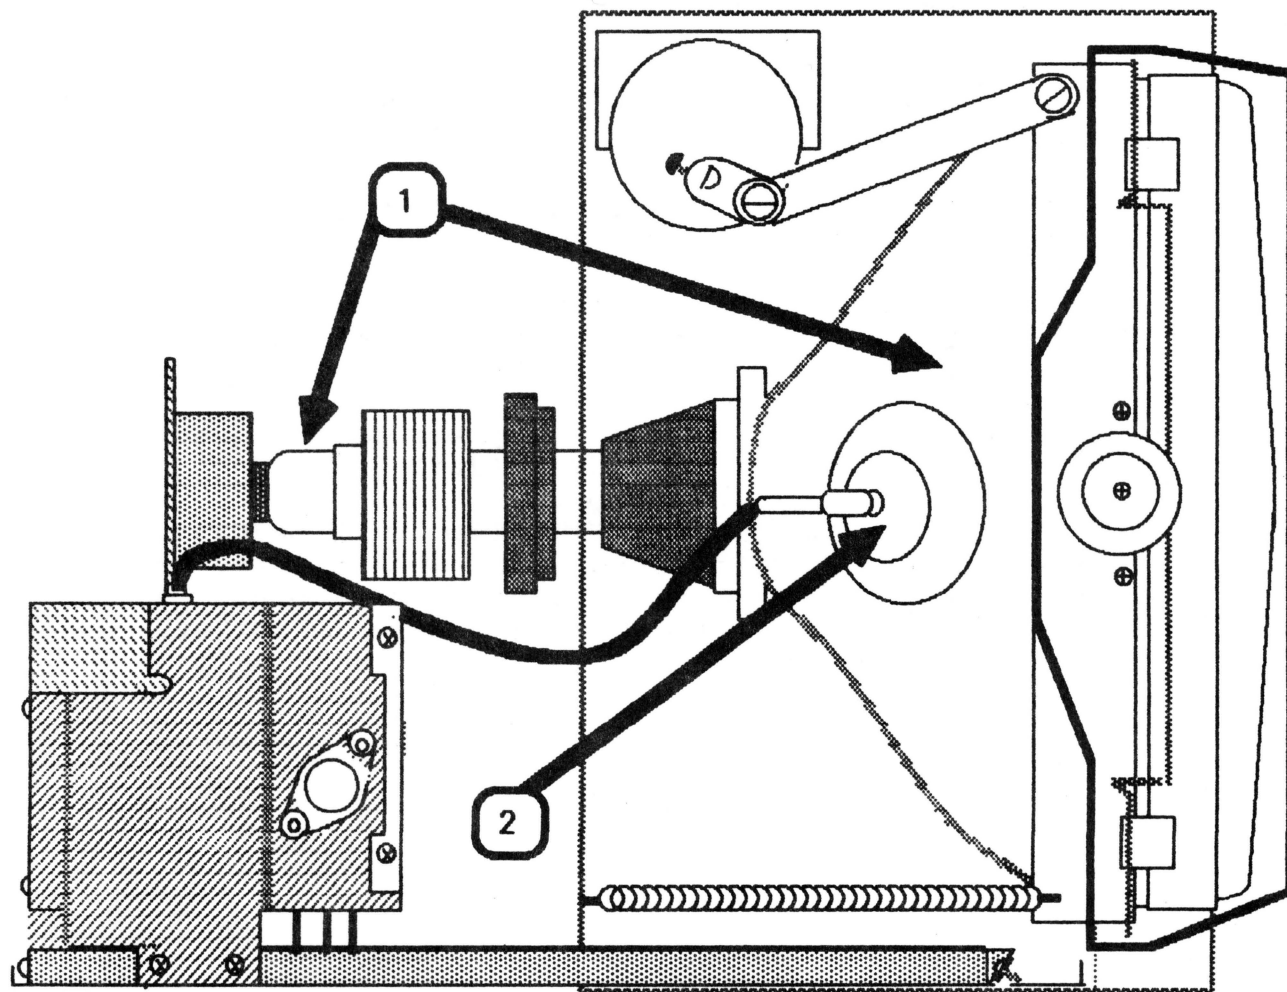

FIGURE 3
2. **ALWAYS DISCHARGE THE CRT BEFORE REMOVING OR REPLACING ANY INTERNAL PARTS.** The CRT, or Cathode-Ray Tube, (Figure 3, #1) is an extremely dangerous piece of equipment. It runs at 24,000 volts DC and contains a high vacuum. Before touching any internal components you must discharge the CRT. (See **Discharging the CRT.**)
6. **NEVER TOUCH THE ANODE.** Normally the anode has a connector (Figure 3, #2) plugged into it, but when a CRT is replaced, this connector is removed, exposing the anode. The anode can maintain a charge of several thousand volts (even after the power is off).